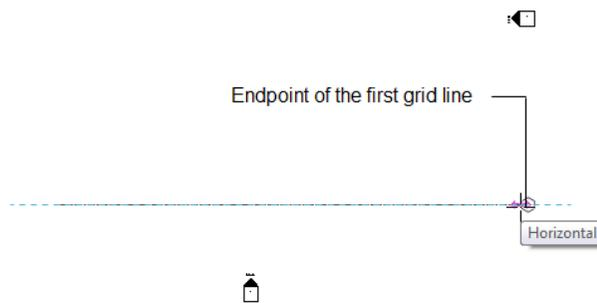

Figure 3-57 The location for the endpoint of the first horizontal grid line
4. Move the cursor horizontally to the right and click when it reaches a point below the **East** elevation arrow; refer to Figure 3-57 for location.